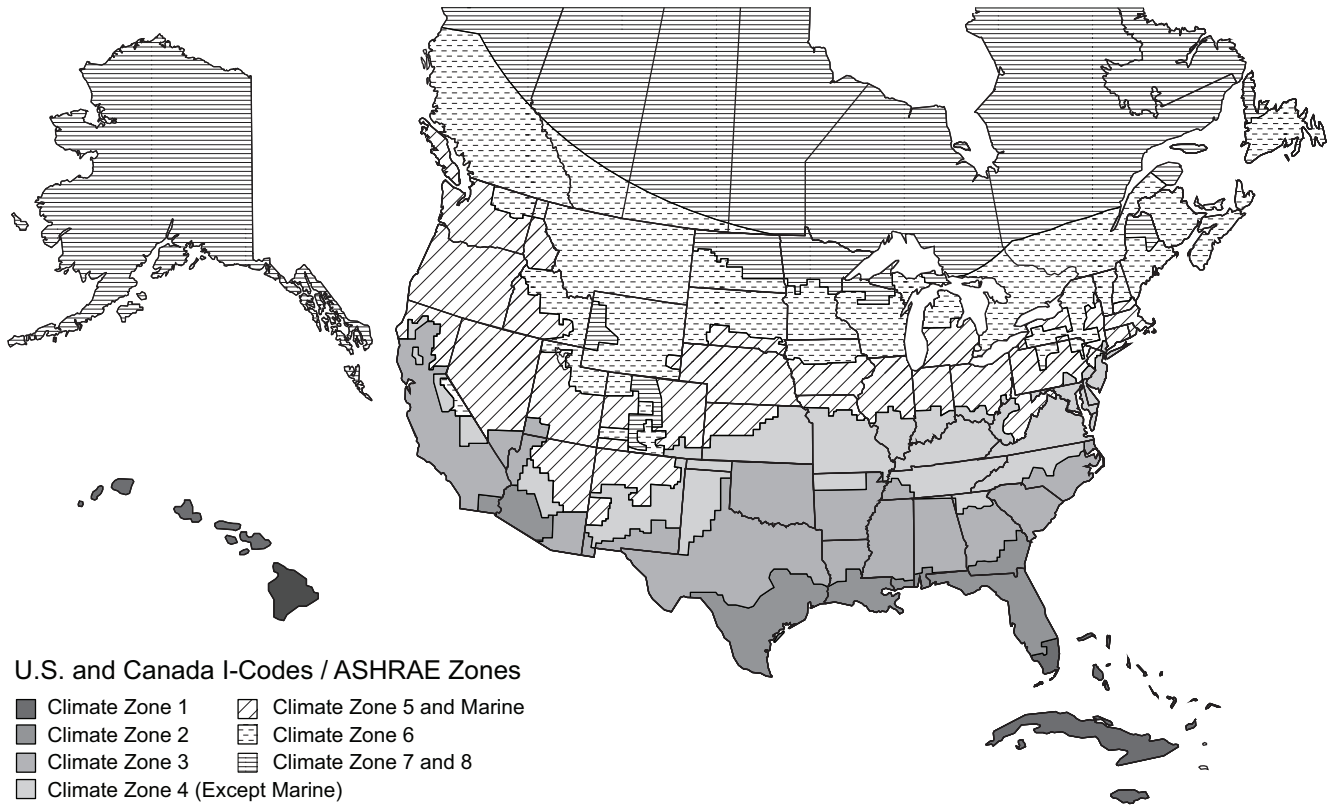

Fig. 85 — U.S. and Canada Climate Zones
- a. See Fig. 85 for map of U.S. and Canada climate zones.